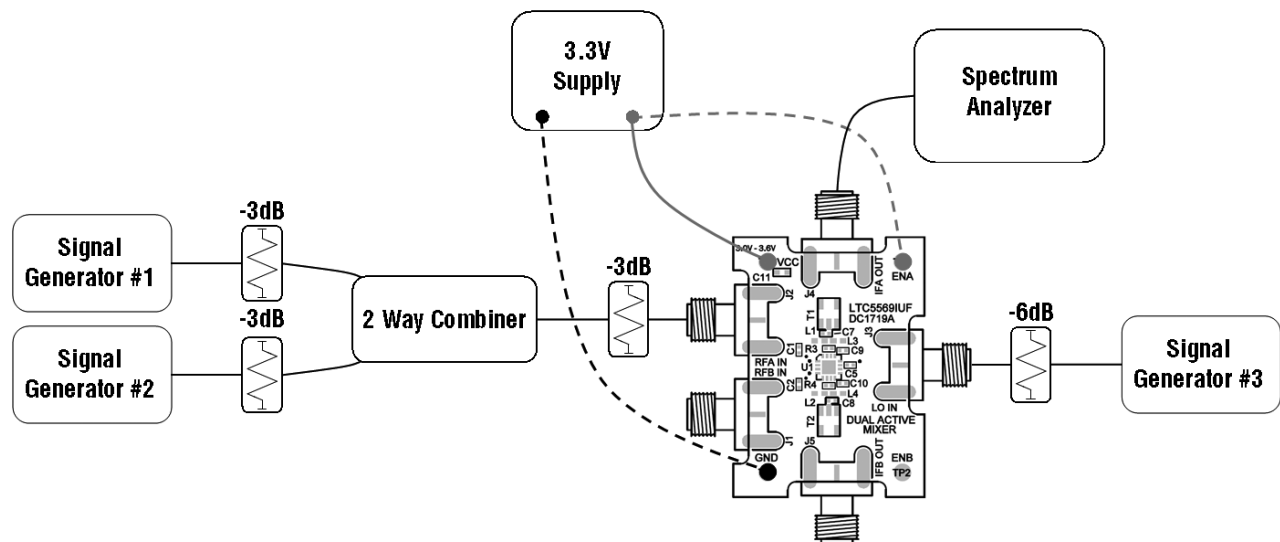

Figure 1. Test Setup for Mixer 2-Tone Measurements
- High quality combiners should be used to present a broadband 50Ω termination on all ports as well as provide good port-to-port isolation. Attenuator pads may be used on the inputs to the combiner and the RF input port of the LTC5569 mixer, as shown in Figure 1. Adding attenuator pads further improves source isolation and helps prevent the signal generators from producing intermodulation products.
1. Connect all test equipment as shown in Figure 1.